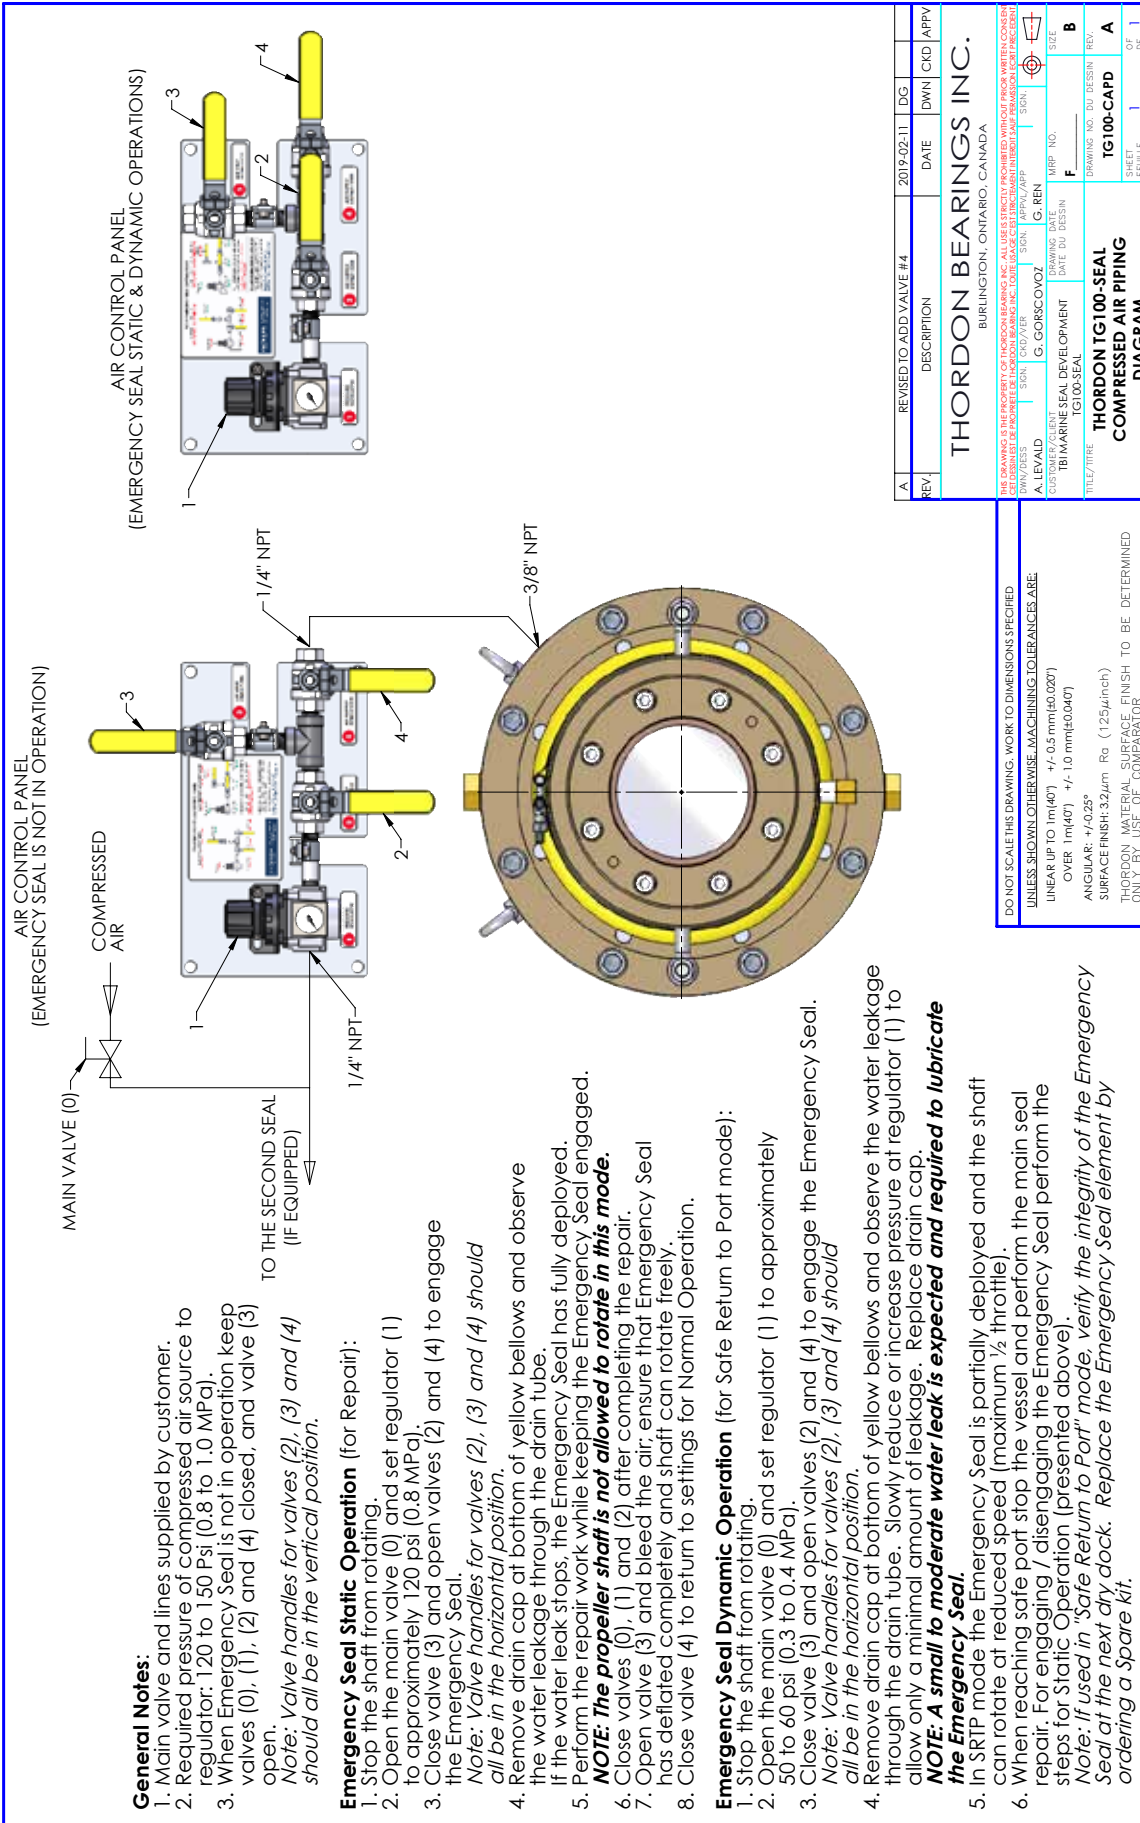

Figure 13: Typical Air Piping diagram for one TG100 Seal; if for twin screw vessel, air line can be split to feed a second Air Control Panel
The typical air supply circuitry is presented in the Air Piping Diagram shown in Figure 13 in APPENDIX.
1. Check the seal visually for tightness; observe if any leakage occurs at the SiC rings interface. If there is water leaking, the sealing rings may need to be cleaned. Engage the emergency seal and shut off the water supply to the seal. (See Figure 13 in APPENDIX for instructions on engaging the emergency seal.)